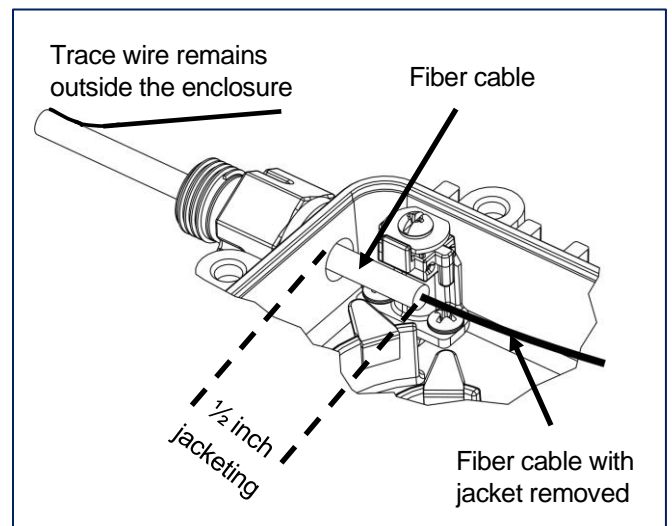

Figure 6. Proper placement of fiber cable
- ⑤ Thread the nut onto the end of the port. As the nut begins to tighten against the grommet, push the cable until the mark is 1/2 inch inside the housing (Figure 6). Then, finish threading the nut until it just touches the housing's exterior. Tighten the Strain Relief Boot, if used.